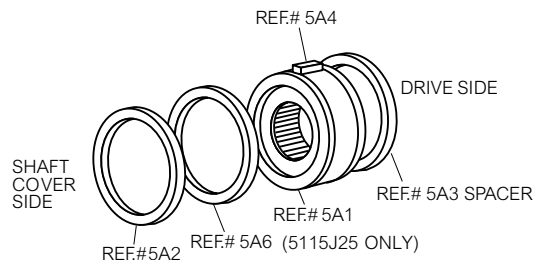

Figure 2
2. **BACKSTOP PREPARATION:** Remove backstop Ref. #5A1 from the kit and wipe off any excess lubricant. On drive sizes 5107 (all ratios) and 5115 (24.87 ratio), assemble retaining ring Ref. #5A2 onto one of the grooves on the backstop OD. On drive size 5115J25, assemble spacer Ref. #5A6 to backstop OD adjacent to retaining ring on inboard side. All other size 5115J and larger drives, insert housing spacer Ref. #5A3 (retaining ring used as housing spacer on drive size 5207J) into housing bore adjacent to bearing cup (Figure 2). Assemble key Ref.#5A4 to backstop keyway (spacer Ref. #5A6 is between retaining ring and key on 511J25 backstop).